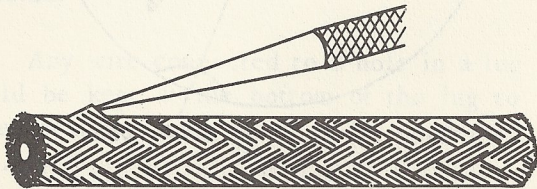

Fig. 2-15
Step 3. Force the point of the scribe or the awl into the shielding about 1/4-inch from the end of the wire. Figure 2-15 shows you how this should be done. Don't force the pick into the insulation; push it through the shield only.